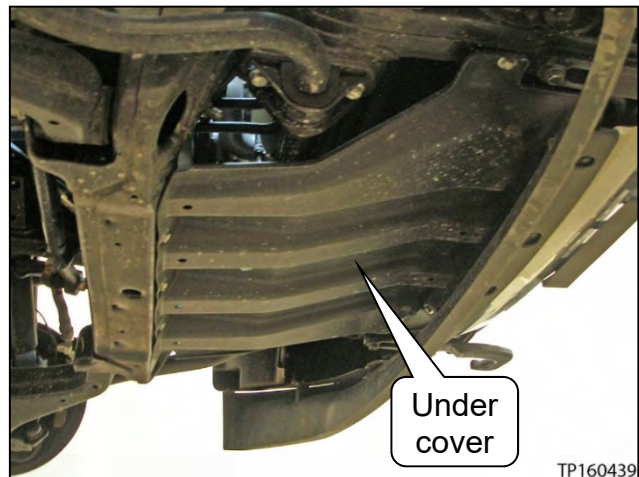

Figure 120
49. Install the engine under cover (see Figure 120).